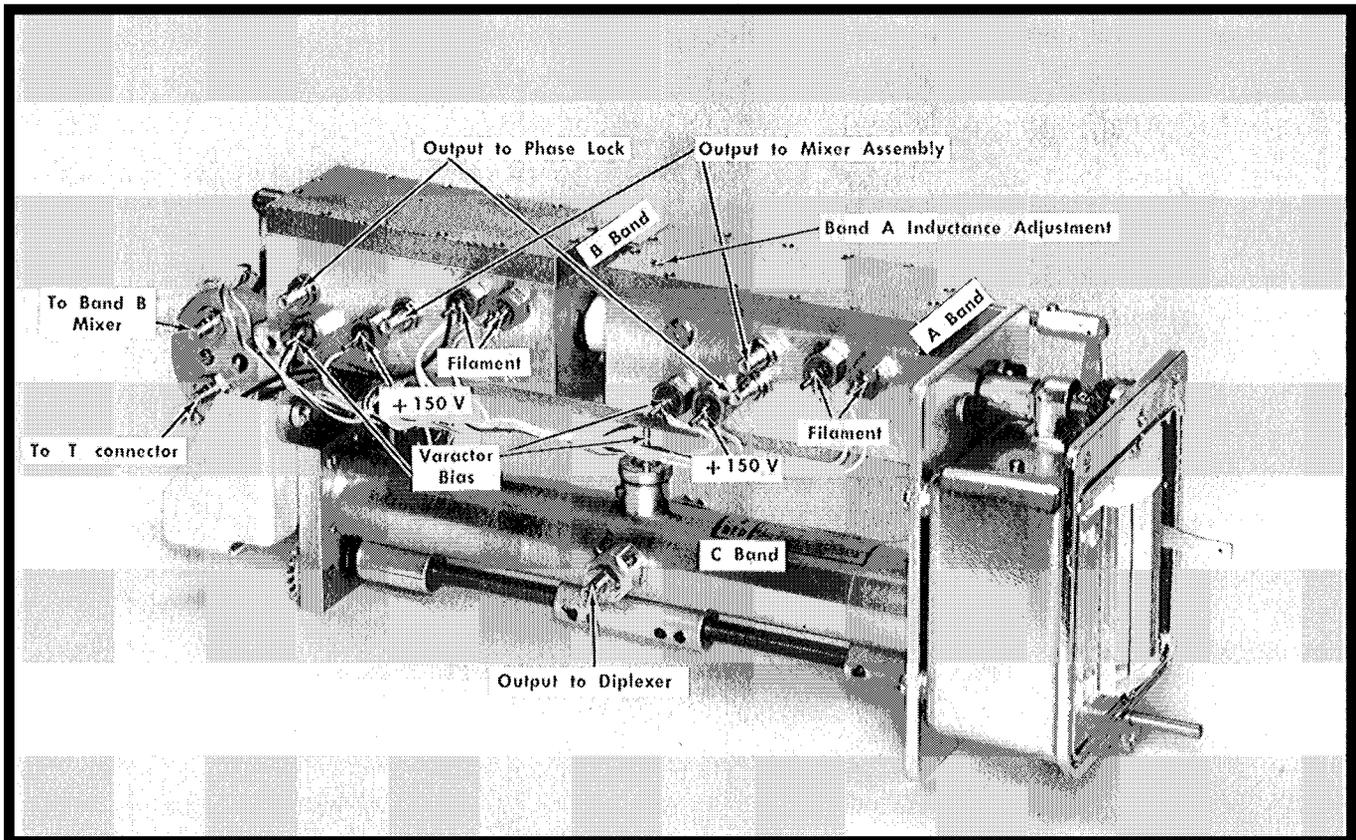

Fig. 6-47. Local oscillator assembly showing voltage and signal connections.
2. Push the LOCK CHECK button and adjust the RF FINE FREQ control for a centered (vertical) trace. This should provide a varactor bias reading of +7.0 volts. See Fig. 6-47.
volts at the varactor bias terminal for the band B oscillator. See Fig. 6-47.
8. Push the LOCK CHECK button and adjust the FINE RF CENTER FREQ control for a centered trace or +7.0 V at the varactor bias terminal on band A local oscillator. See Fig. 6-47.